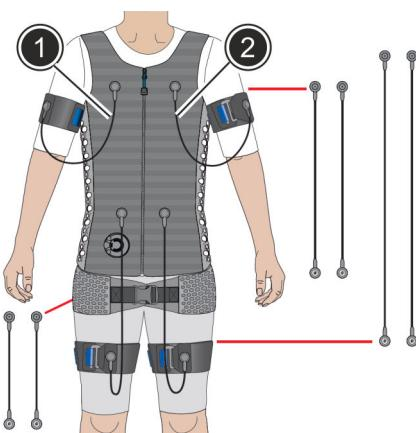

Fig. 42: Connecting the i-body® straps flex
12. ➔ Connect both i-body® straps flex to the i-body® (Fig. 42/1 and 2) to the i-body® cable.
- i** When connecting the i-body® straps flex, always ensure that the corresponding cables (medium length) are used, in accordance with Fig. 42.